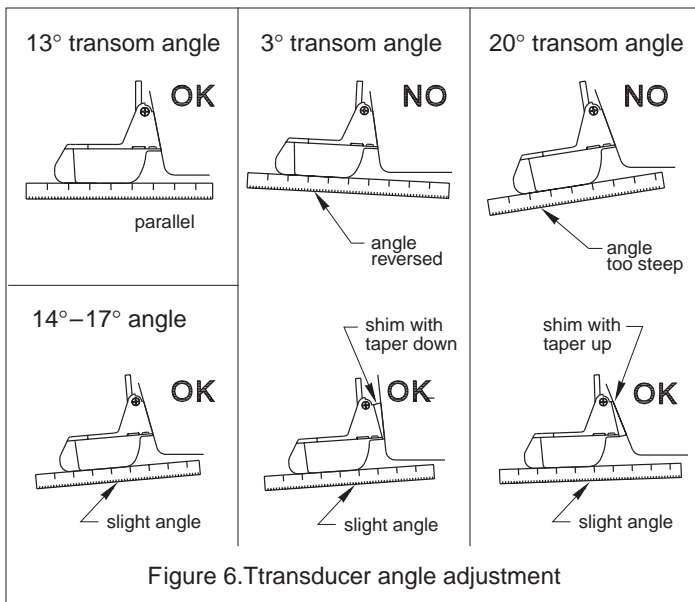

Figure 6. Transducer angle adjustment
1. Using a straight edge, sight the underside of the sensor relative to the underside of the hull (see Figure 6). The stern of the sensor should be 1–3mm (1/16–1/8") below the bow of the sensor or parallel to the bottom of the hull.